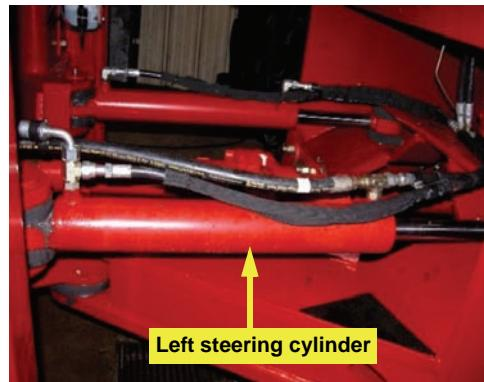

Figure 6a: Steering output location
- Locate the left steering cylinder in the middle of the tractor (Figure 6a).